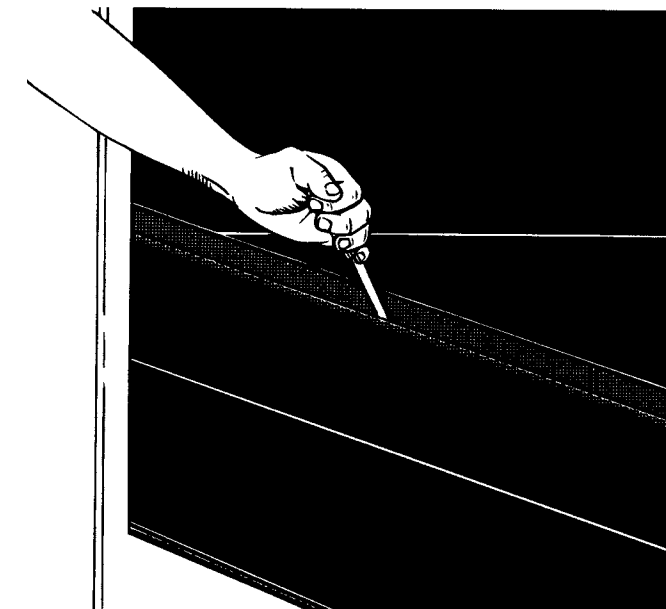

Fig. 5-9
14. From marks made down the edges, redraw the bias line where the cover was removed. Then cut the top ply along this line (Fig. 5-9).